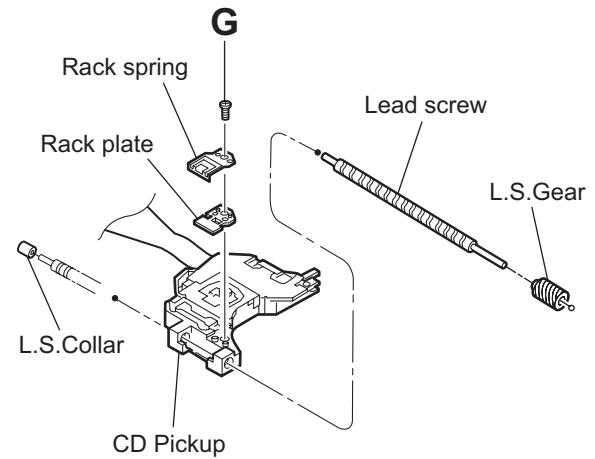

Fig.19
- (5) Remove the screw **G** attaching the rack spring and rack plate on the CD pickup. (See Fig.19)
- (6) Pull out the lead screw. (See Fig.19)